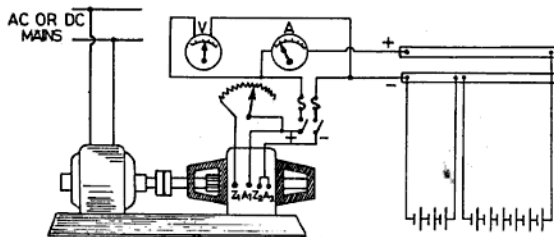

Fig. 9.14 Constant potential method of battery charging
**(ii) Constant Potential Charging System** To charge a battery with the help of a motor-generator set (or metal rectifier which will be discussed later on) is based on this system. Figure 9.14 shows the connection of this